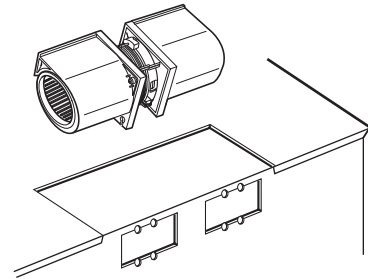

Figure 18-b
- (1) When mounting the door assembly to the oven assembly, be sure to adjust the door assembly parallel to the chassis. Also adjust so the door has no play between the inner door surface and oven frame assembly. If the door assembly is not mounted properly, microwaves may leak from the clearance between the door and the oven.
- (3) Carefully pull the ventilation motor ASS'Y out of the microwave oven. (See Figure 18-b)